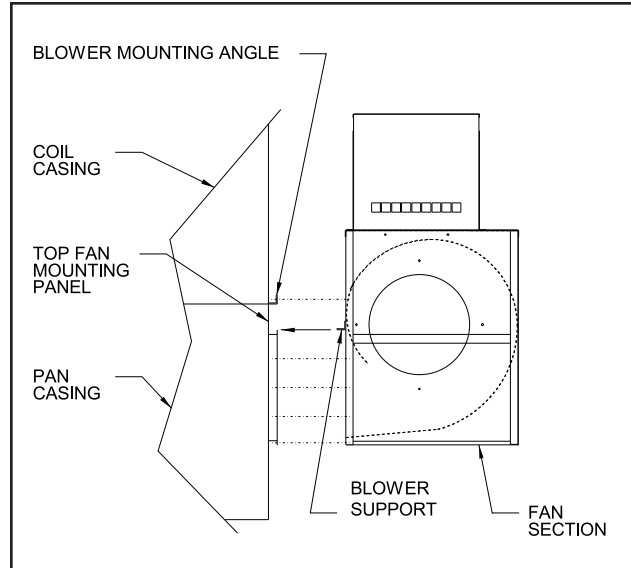

Figure 4b - Blower Assembly Mounting Instructions
3. Lower fan section to pan/coil section unit body so that the blower support on the fan section rests on the flanged edge of the top fan mounting panel on the pan/coil section unit body. Move the fan section to the pan/coil section unit body until all mounting flanges are touching. (Figure 4b)